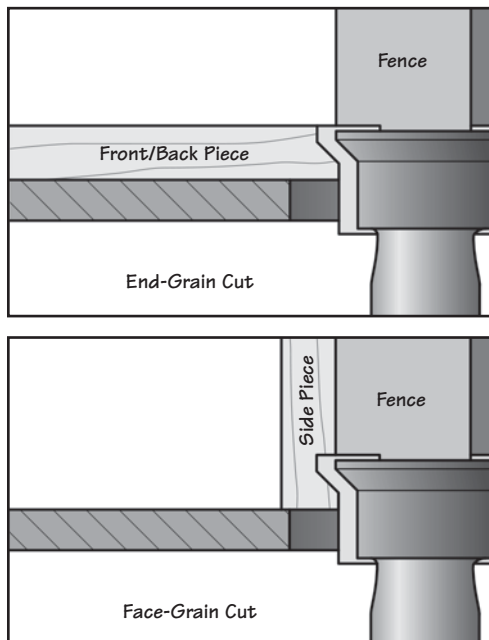

Figure 6: Cut types.
3. Using the trial pieces, create an end-grain and a face-grain cut representing the front/back and sides of the drawer, respectively. Note that each piece is to be routed with the fence in the same location, as shown in **Figure 6**.